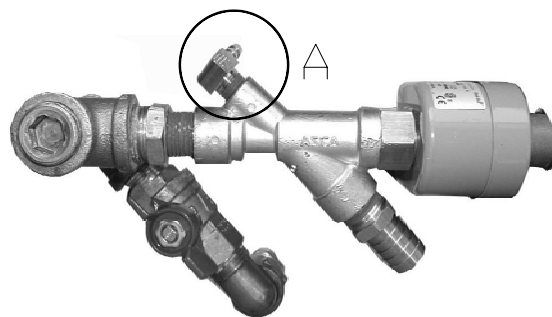

Figure 2
- 3) Remove the 1/4" hose 1 (Figure 1) from the fitting connection at the drain valve (circle A in Figure 2).
- 4) Remove the hose barb fitting from the drain valve (circled A in Figure 2).